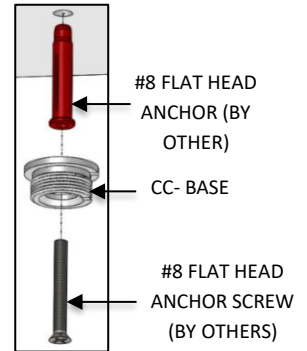

FIG. 19- HARD CEILING
- Install the CC-BASE to the #8 FLAT HEAD ANCHOR (by others) previously installed at the non-powered mounting location and secure with the #8 FLAT HEAD ANCHOR SCREW (by others) as shown in FIG. 19.